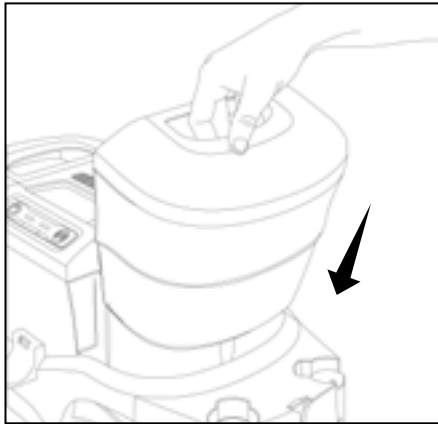

Fig. 4
4. Tighten the screw cap and replace the clean water tank into the base until you hear a click (Fig 4)